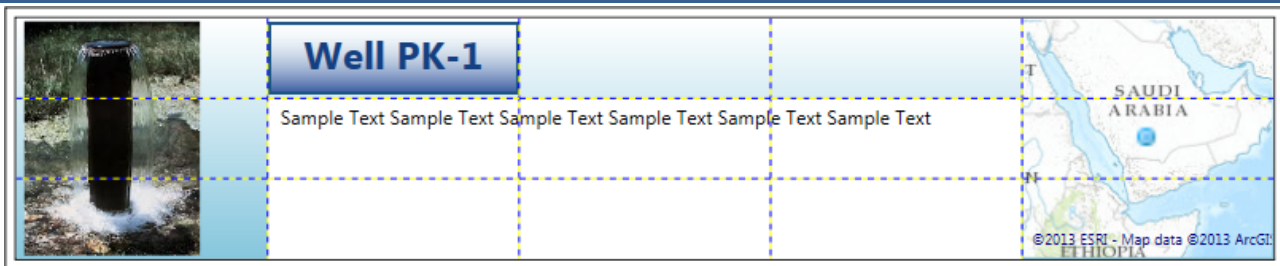

Fig. 101: Example of size and position properties of multiple objects within the grid.
Label, (3) **Text Area** and also (4) the **Map**. Their **size** and **position** set in the header area grid is shown in Figure 101. You can then hide the grid-lines and edit the content of individual objects. To display the grid context menu you must to click on an empty area outside the embedded objects.